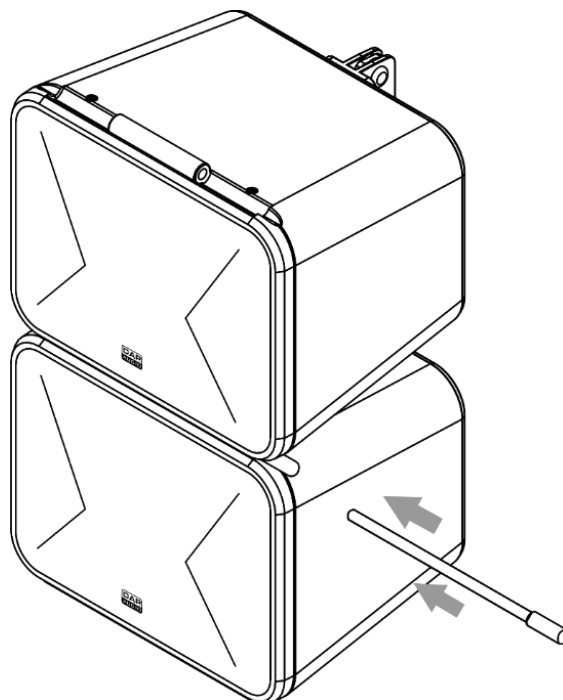

Fig. 04
- 05) Mount more Xi-3 speakers, from the bottom upwards, on the top of the already mounted first Xi-3 speaker (fig. 04 and fig. 05).